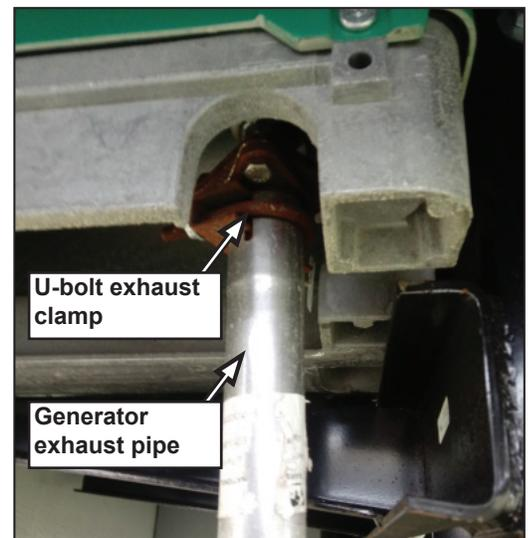

Figure 4
6. Referencing Figure 4, remove the generator exhaust pipe by loosening the U-bolt clamp securing the generator exhaust pipe to the generator with a ratchet and a $\frac{1}{2}$ ” deep well socket. Set aside the U-bolt exhaust clamp for later reinstallation. Discard the generator exhaust pipe as it will not be reinstalled.